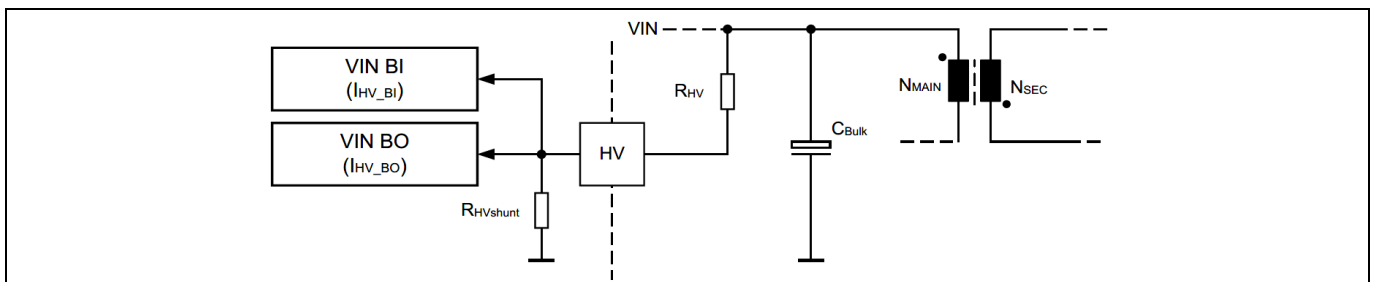

Figure 5 HV pin sensing for brown-in/brownout protection
The primary side brown-in protection (BI) and brown-out protection (BO) thresholds are configured by the resistor R_{ZCDPL} at the Z_{CDP} pin. Four configurable options are available for setting the paired BI and BO thresholds. The integrated HV start-up cell at the HV pin is used to observe BI and BO, as shown in Figure 5. The external HV start-up resistor at the HV pin forms a resistor divider with the internal shunt resistor $R_{HVshunt}$. The system-level thresholds for BI and BO are set by selecting R_{ZCDPL} . Table 4 shows the options that can be set by R_{ZCDPL} , which is connected between the Z_{CDP} pin and ground.